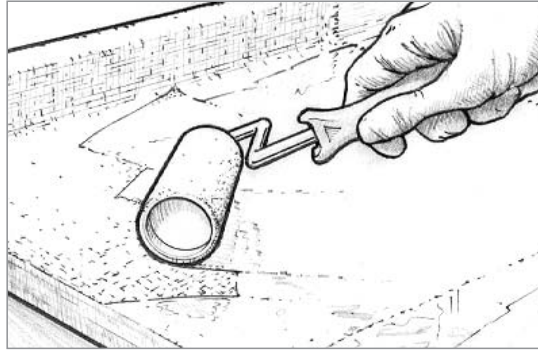

Figure 6-16 Apply the first coat of unthickened epoxy to fill the weave of the cloth before the wet-out coat reaches its final cure phase.
9. Coat the surface to fill the weave before the wet-out reaches its final cure stage (Figure 6-16). Follow the procedures for epoxy barrier coating under Section 6.4.6. It will take two or three coats to completely fill the weave of the cloth and to allow for a final sanding that will not affect the cloth.